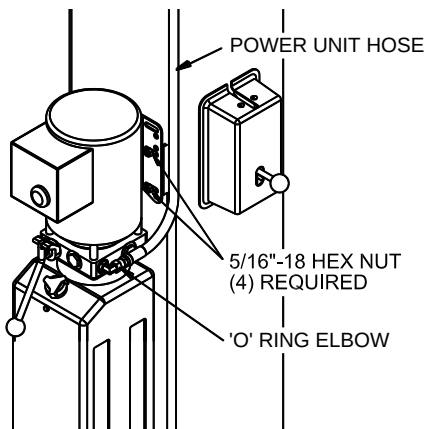

Fig. 12 – Power Unit Mounting
- 27) Mount power unit to power column as shown in **Fig. 12**. The mounting hardware, (4) 5/16"-18 hex nuts, are pre-installed on power unit mounting bracket.
- 31) Thread 9/16-18 O-ring elbow (*in hardware box*) into power unit. Attach free end of power unit hose to elbow. See **Fig. 12**. CAUTION do not damage rubber O-ring.